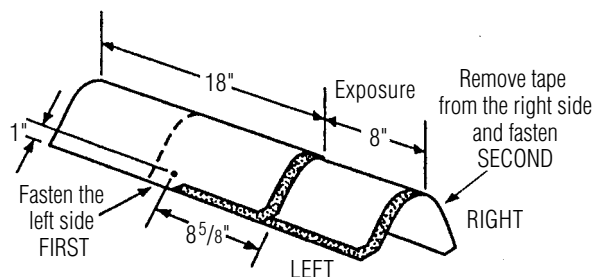

Figure 17-15: Installation of Shangle Ridge shingles on hips and ridges.
7. Fasten each cap with two fasteners (Figure 17-15). The fasteners must be 1 3/4" long, or longer, so they penetrate either 3/4" into the deck or completely through the deck, exposing at least 1/8" of the tip of the nail. Expose 8" of the Accessory along the ridge or hip line and cover all fasteners.